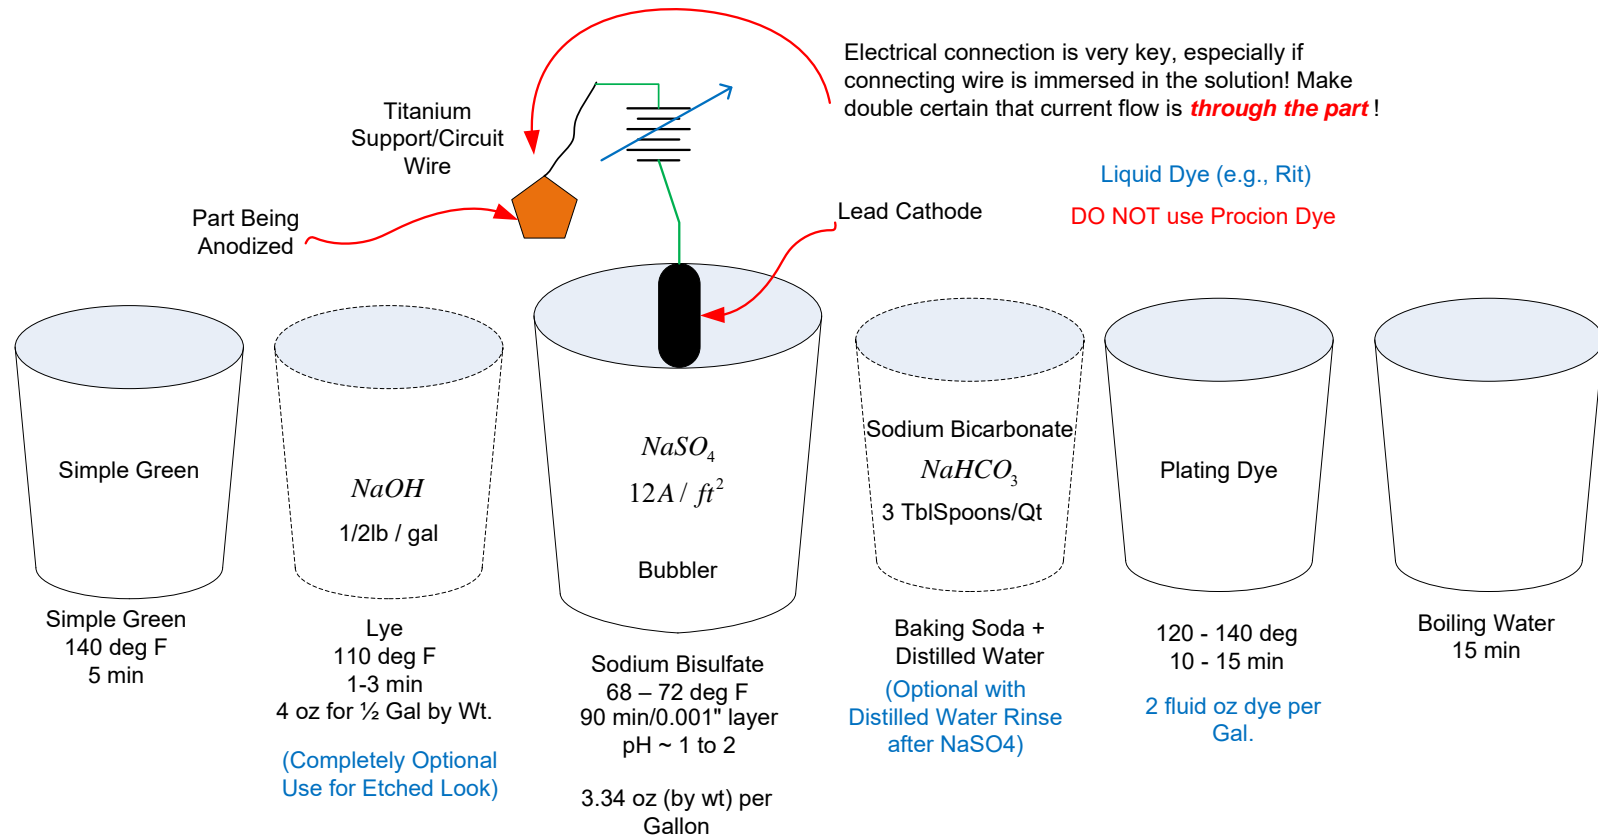

Figure 6 Anodizing setup⁴. Dashed-line items are optional.
2. If sandblasting, carefully clean the surfaces first so that the sandblasting does not pound oils and contaminants down into the metal. I used *Simple Green* for this step per Figure 6.
Figure 3 Dedicated shelving for my anodizing setup. All but the boiling water final step in Figure 6 is shown left-to-right. The anodizing tank is in the center. Temperature controllers are on the top shelf, far left. Anodizing power supply is on the top-shelf at center. The recirculating pump and ice-cold water reservoir are on the bottom shelf.